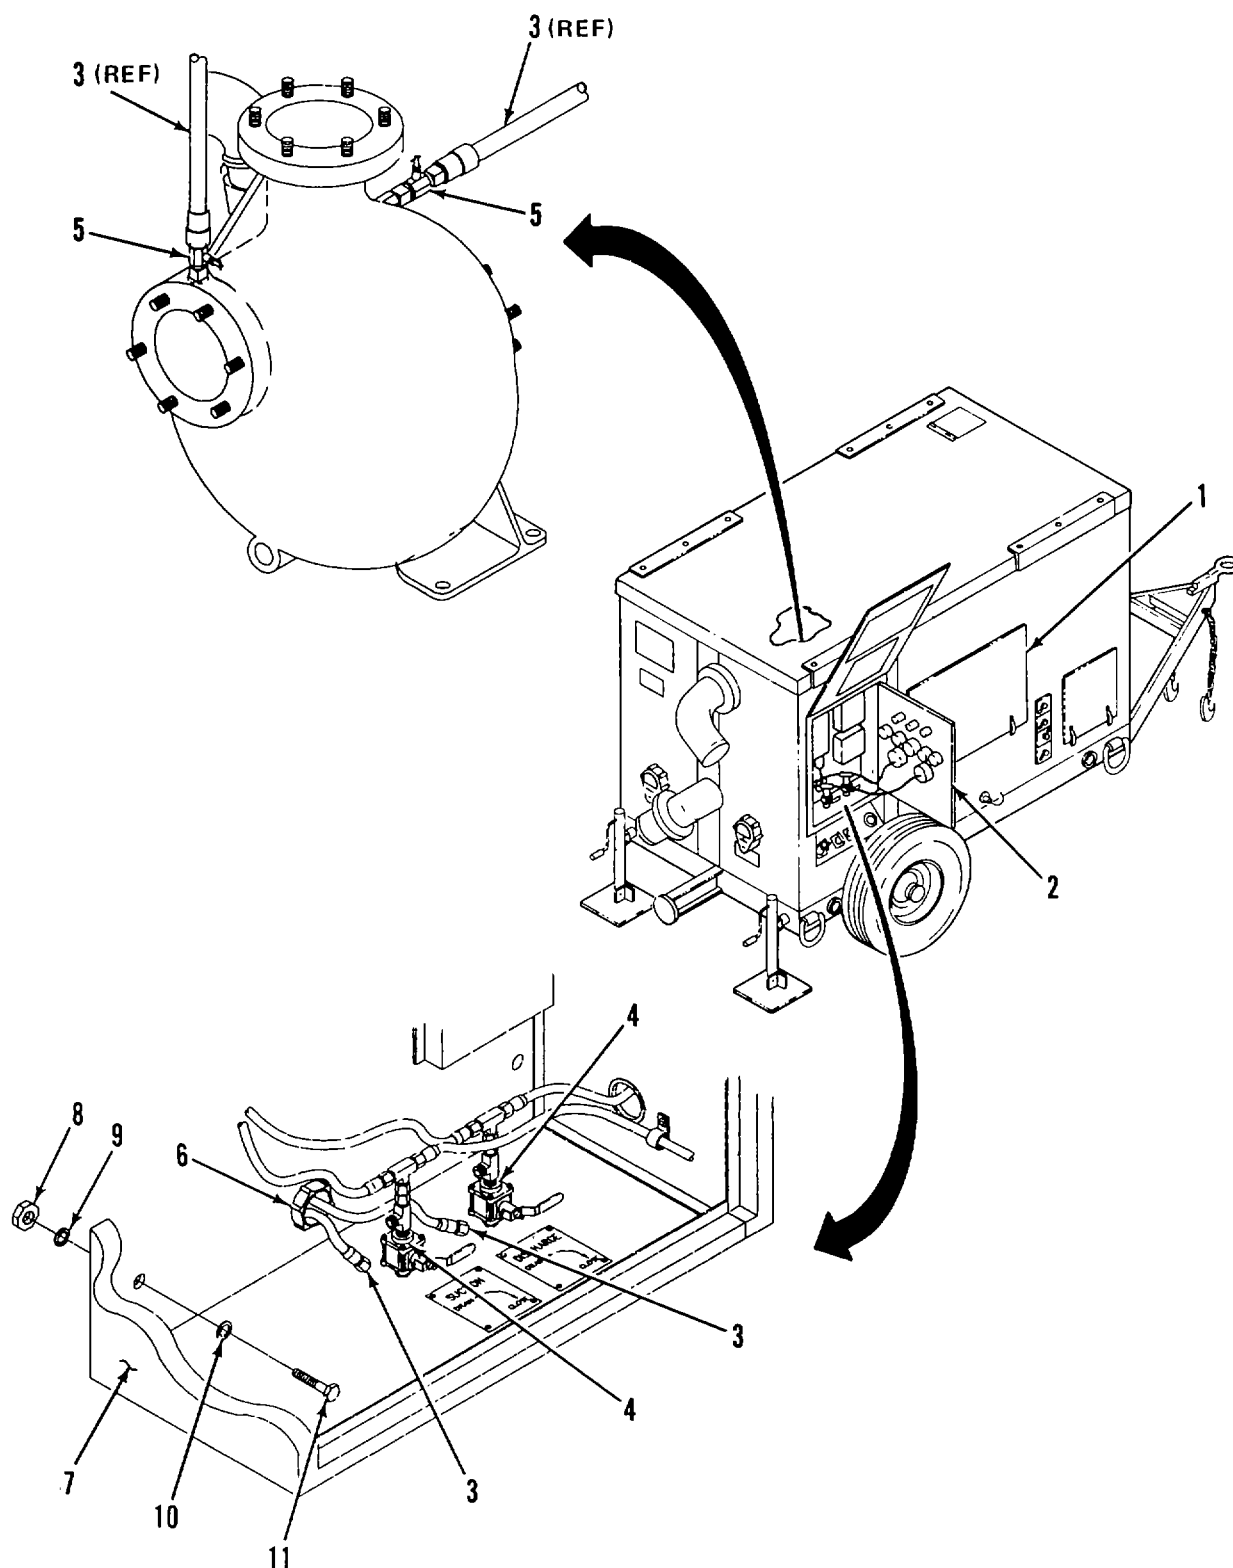

Figure 2-4. Control Panel Assembly
a. REMOVE. (Figure 2-4)
- (1) Open engine access door (1).
- (2) Disconnect electrical connectors P1 and P9 from J1 and J9 on mounting bracket behind control panel.
- (3) Open control panel door (2). Tag and disconnect flexible tube assemblies (3) at drain valves (4) and at pump gage valves (5). Pull tube assemblies (3) through grommet (6) from rear of control panel (7).
- (4) Remove nuts (8), lockwashers (9), flat washers (10), and bolts (11) holding control panel (7).
- (5) Remove control panel (7).